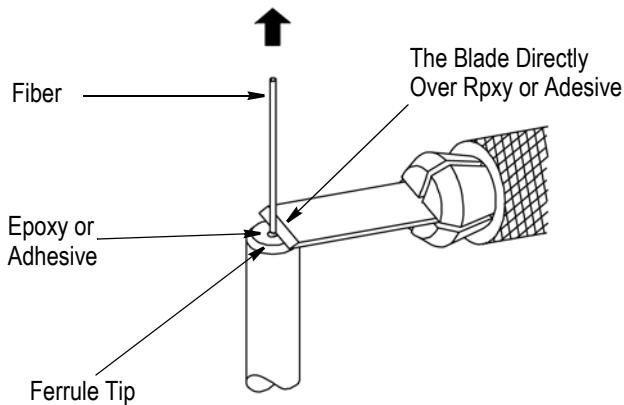

Figure 9
3. Place the blade of the scribe tool directly above the epoxy or adhesive. DO NOT allow the blade to make contact with the epoxy or adhesive. Refer to Figure 9.